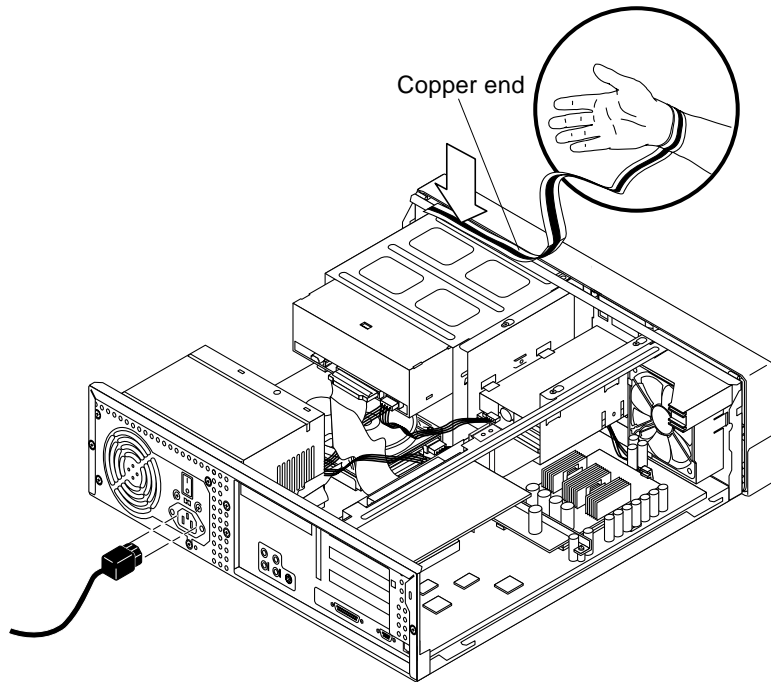

FIGURE 5-6 Attaching the Wrist Strap to the Chassis
3. Attach the copper end of the wrist strap to the chassis (FIGURE 5-6).